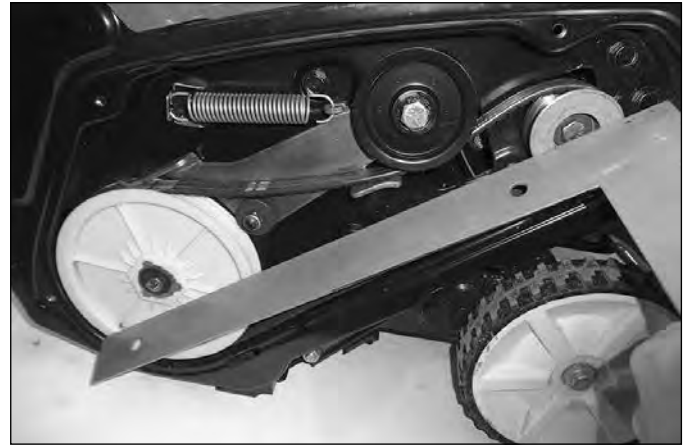

Fig. 021
3. Install the engine pulley. If the unit has a bolt holding the engine pulley on, torque the bolt to 19 ft-lbs (26 Nm). If the unit has set screws, slide the pulley onto the shaft and install the belt. With a straight edge, align the pulley with the rotor pulley so the belt is straight. Tighten set screws (Fig. 021).